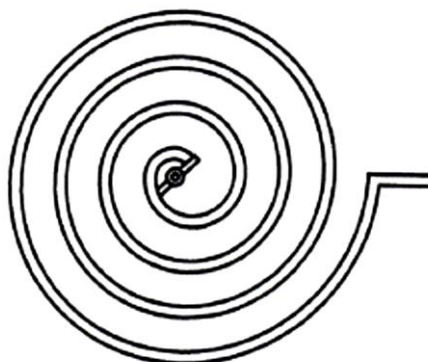

Fig.4.4 – Spiral spring
- ▶ Spiral springs are shown in Fig.4.4.